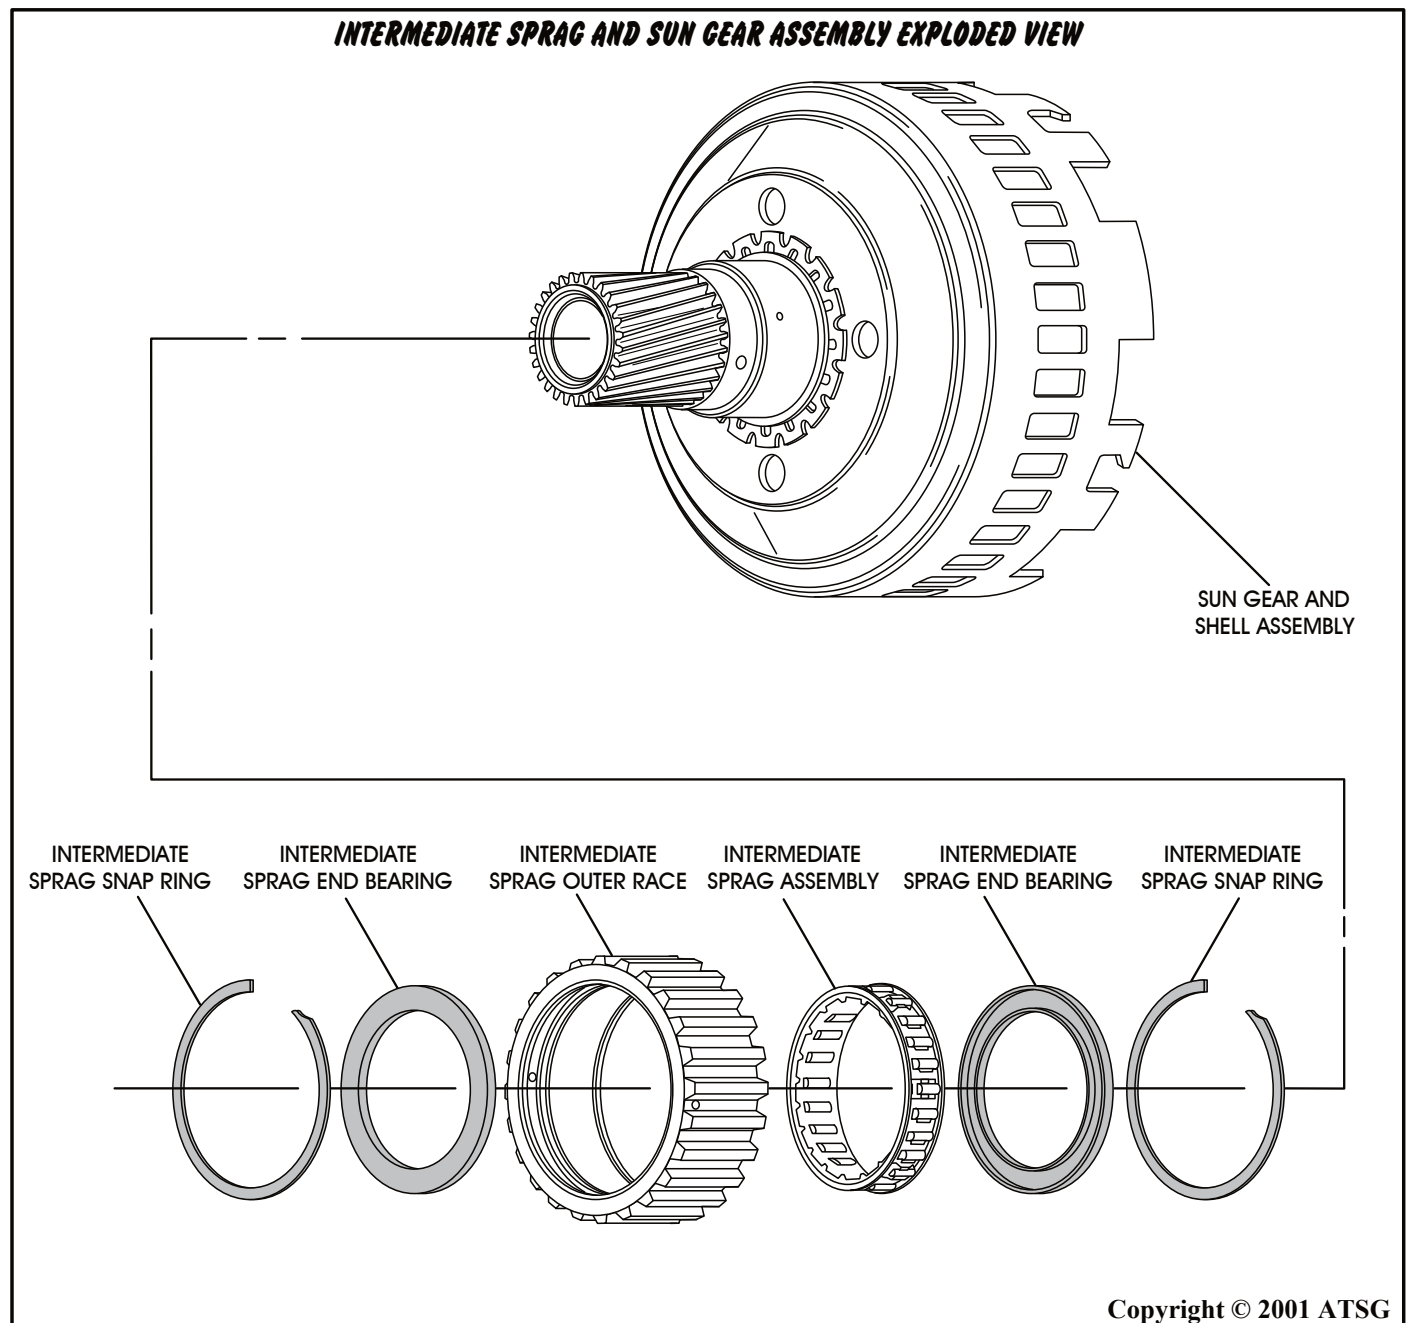

Figure 103
1. Disassemble the intermediate sprag and sun gear shell assembly parts using the illustrations shown in Figure 103.